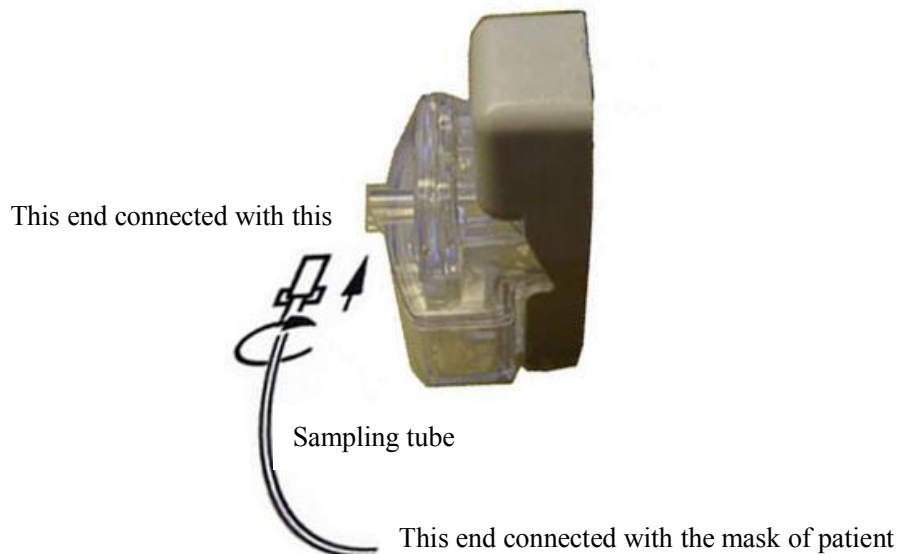

Fig. 5-7-3 Connected with dehydration flask
- According to the Fig. 5-7-3, one end of the sampling tube has been connected with screw thread interface of the dehydration flask, and the other end of the sampling tube has been connected with the screw thread interface tube ( $\Phi$  10mm) of the patient Anaesthesia machine or Ventilator (If not the type screw thread interface tube, please connect the requirement type tube) the sampling tube's port can also been fixed on the naris of patient with adhesive plaster.